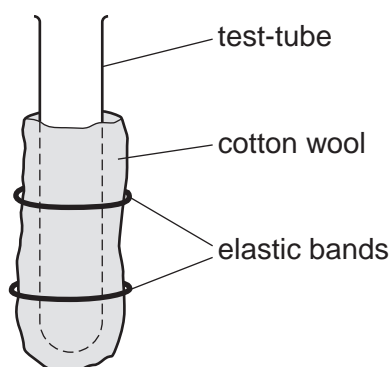

Fig. 2.1
- (iii) Cotton wool (sufficient to wrap completely round the test-tube as shown in Fig. 2.1). Fresh cotton wool is required for each candidate. Spare cotton wool should be available.